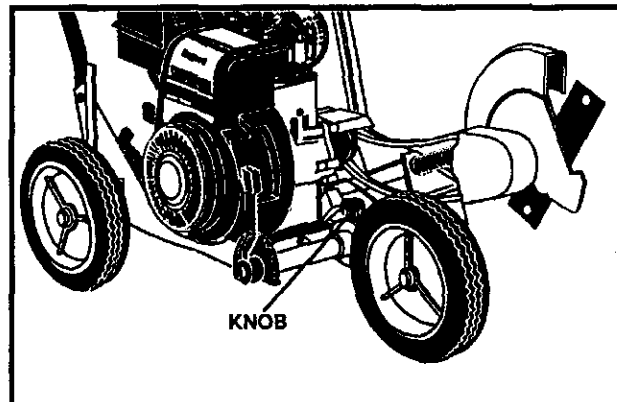

FIG. 6
- Loosen the knob (See Fig. 6) on the front wheel arm and slide the wheel all the way to the right side.
WARNING - AVOID THE MUFFLER AND SURROUNDING AREAS (SEE FIG. 6). TEMPERATURES MAY EXCEED 150° F.